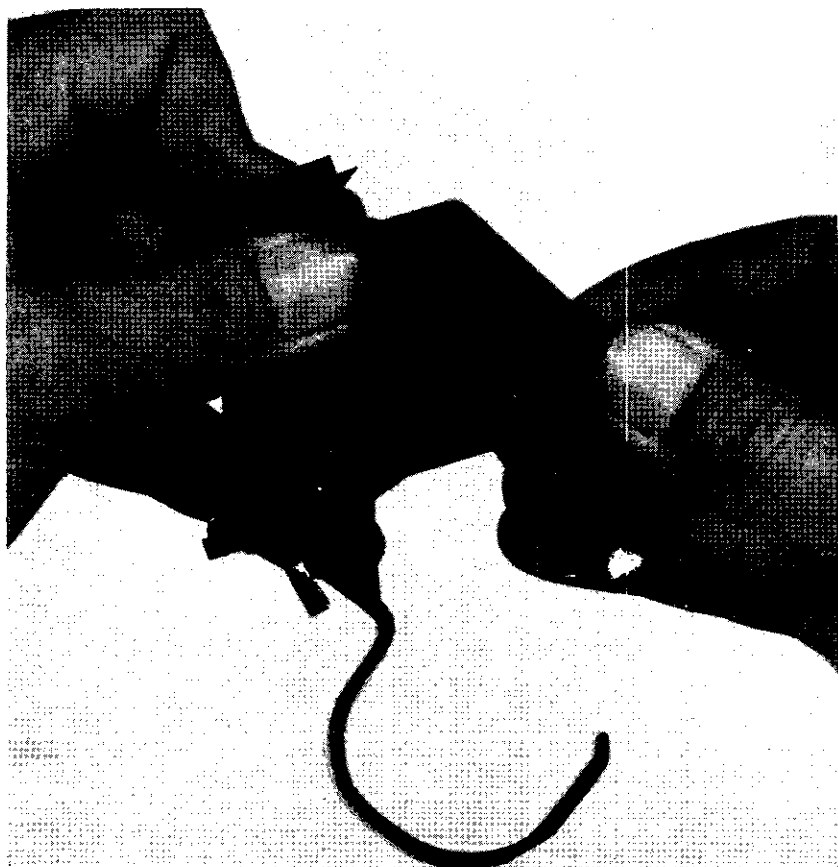

Figure 26. Replacing the safety.
c. Place the right forefinger over the safety spring stud to hold the safety spring in place. Insert the finger piece of the safety through its slot in the base of the trigger housing and turn the trigger housing over so the open face is down. Seat the safety stud in its hole in the trigger housing with the left hand by forcing the safety down against the pressure of the safety spring (fig. 26).